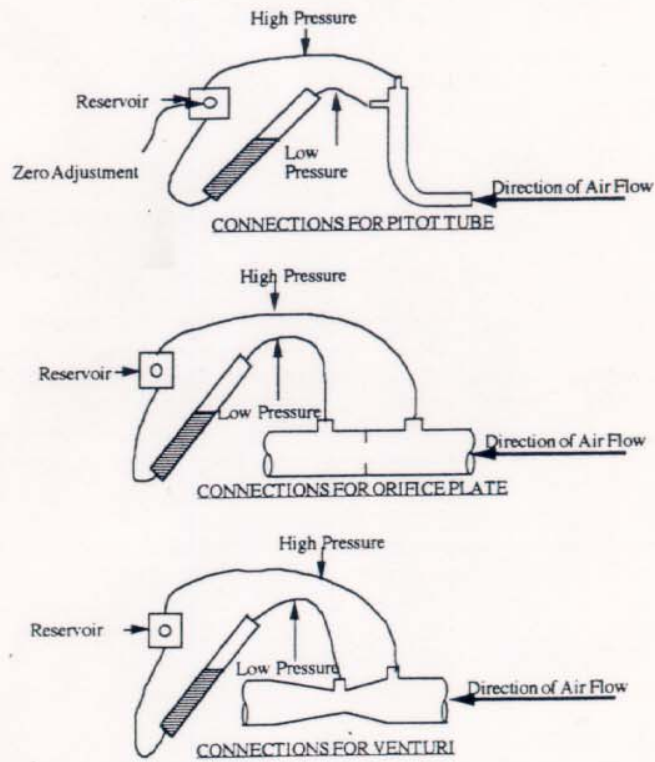

Figure 3 : Differential pressure measurement
- 1- Connect one of the measuring devices to the inclined manometer as shown in Fig. 3.